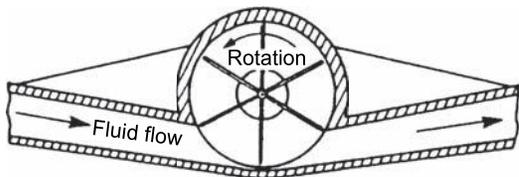

Figure 23.8
- (b) **Rotary vane positive displacement meters** measure the flow rate by indicating the quantity of liquid flowing through the meter in a given time. A typical such device is shown in section in Figure 23.8 and consists of a cylindrical chamber into which is placed a rotor containing a number of vanes (six in this case). Liquid entering the chamber turns the rotor and a known amount of liquid is trapped and carried round to the outlet. If x is the volume displaced by one blade then for each revolution of the rotor in Figure 23.8 the total volume displaced is $6x$. The rotor shaft may be coupled to a mechanical counter and electrical devices which may be calibrated to give flow volume. This type of meter in its various forms is used widely for the measurement of domestic and industrial water consumption, for the accurate measurement of petrol in petrol pumps and for the consumption and batch control measurements in the general process and food industries for measuring flows as varied as solvents, tar and molasses (i.e. thickish treacle).